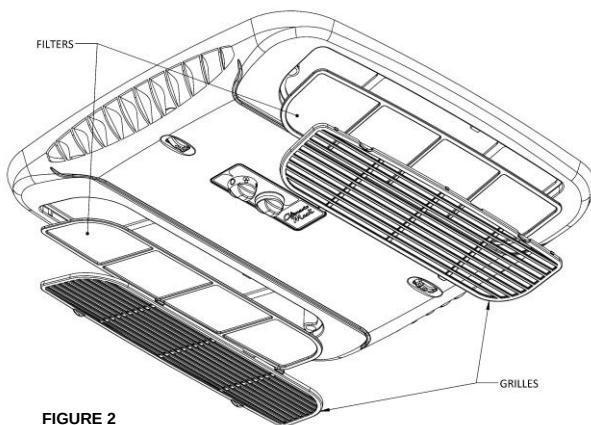

FIGURE 2
3. Re-install the filters and grilles in the ceiling assembly as shown in Figure 2, page 14.